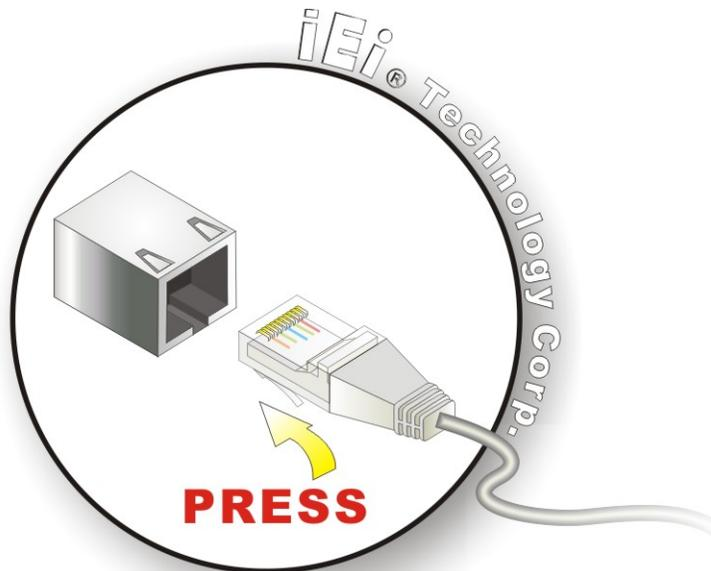

Figure 4-12: LAN Connection
Step 2: **Align the connectors.** Align the RJ-45 connector on the LAN cable with one of the RJ-45 connectors on the KINO-PVN-D5251/D4251. See Figure 4-12.